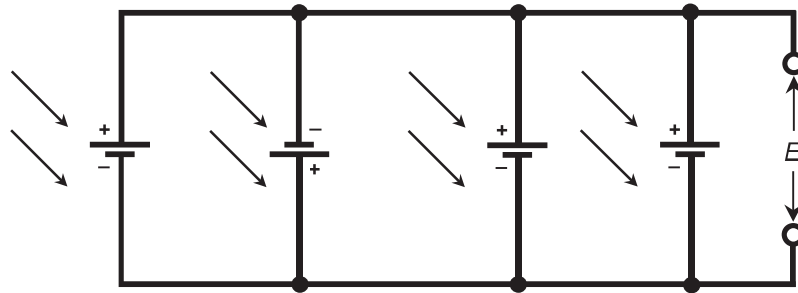

Fig. 5-8. Illustration for Quiz Questions 6 and 7.
6. Examine Fig. 5-8. This is a set of four silicon PV cells connected in parallel. What is wrong with this circuit?
7. In the circuit of Fig. 5-8, suppose the second-from-the-left PV cell is removed. What will be the DC voltage E when the array is exposed to bright sunlight and there is no load connected?